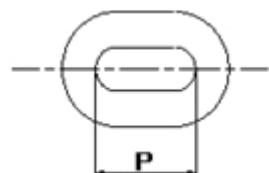

Figure 4- Chain Wear Measurements
- 4 Chain Wear Measurements. See Figure 4.